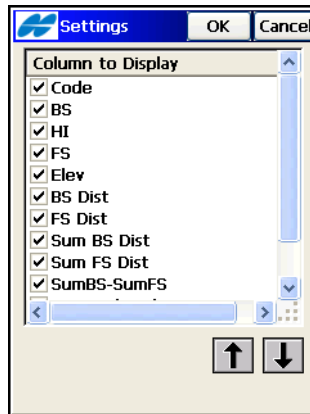

Figure 8-80. Change Display Columns
6. To select the columns and the order of the columns to display in the fieldbook, use the *Display Settings* option from the bitmap in the upper-left corner of the screen (Figure 8-80 on page 8-67).